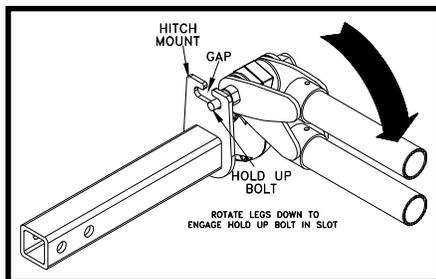

Figure 6
3. With the tow bar legs apart, swing them up towards the towing vehicle until the hold up bolt passes through the gap in the hitch connector. (Figure 6) Rotate the legs down to either side until the hold up bolt engages completely to the side of the hitch connector slot.